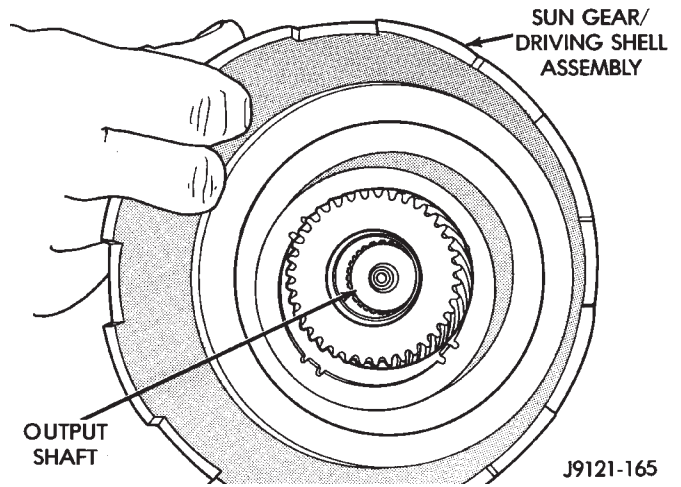

Fig. 93 Installing Assembled Sun Gear And Driving Shell On Output Shaft
(12) Install assembled driving shell and sun gear on output shaft (Fig. 93).